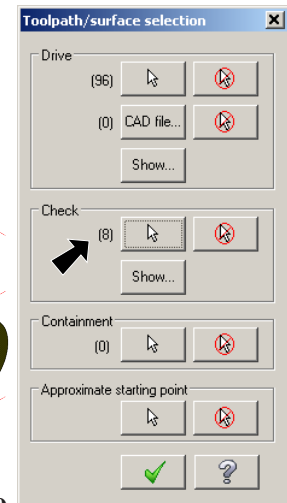

Fig. 10
Step 11. Click OK  in the Toolpath/surface selection dialog box, Fig. 10.